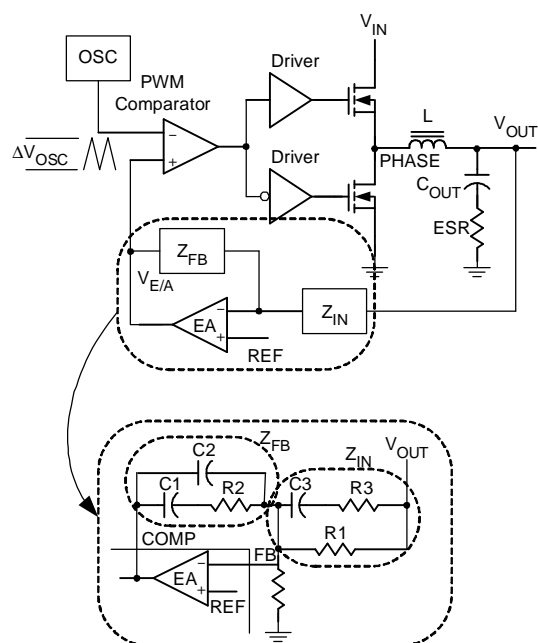
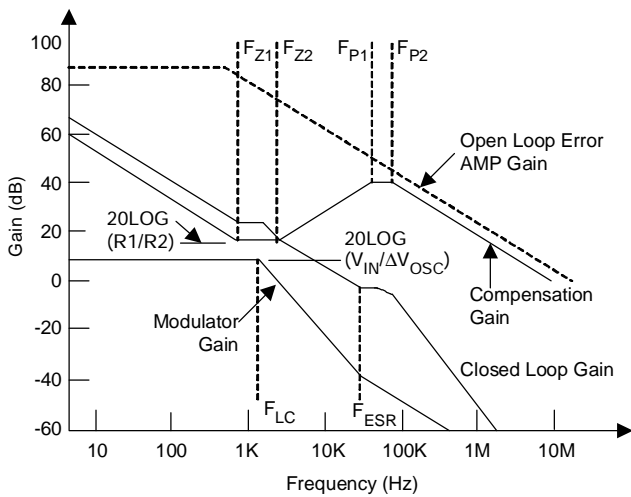

Figure 3
Figure 4
Figure 3 highlights the voltage-mode control loop for a synchronous buck converter. Figure 4 shows the corresponding Bode plot. The output voltage (VOUT) is regulated to the reference voltage. The error amplifier EA output (COMP) is compared with the oscillator (OSC) sawtooth wave to provide a pulse-width modulated (PWM) wave with an amplitude of VIN at the PHASE node. The PWM wave is smoothed by the output filter (L and COUT).
The compensation network consists of the error amplifier EA and the impedance networks ZIN and ZFB. The goal of the compensation network is to provide a closed loop transfer function with the highest DC gain, the highest 0dB crossing frequency (FC) and adequate phase margin. Typically, FC in range 1/5 to 1/10 of switching frequency is adequate. The higher FC is, the faster dynamic response is. A phase margin in the range of 45° C to 60° C is desirable. The equations below relate the compensation network poles, zeros and gain to the components (R1, R2, R3, C1, C2, and C3) in Figure 4.